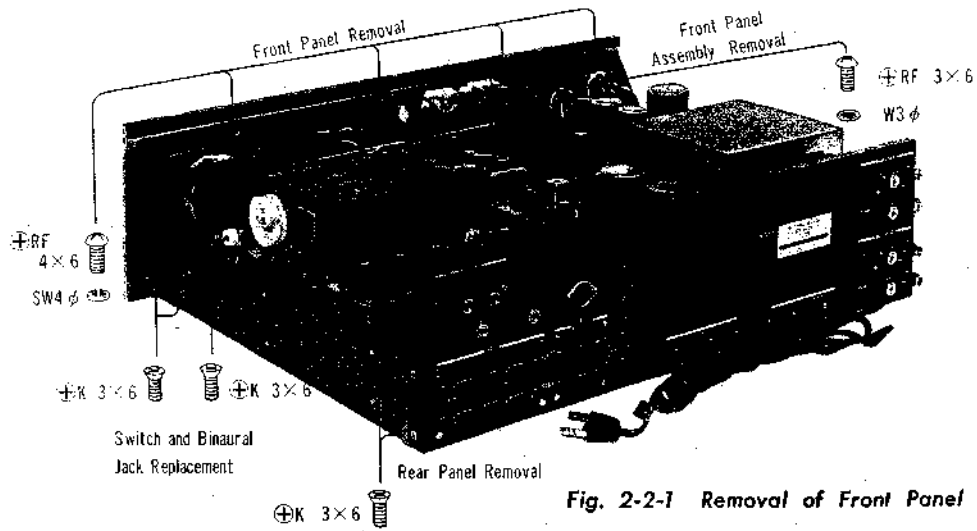

Fig. 2-2-1 Removal of Front Panel
- (c) Loosen off four Phillips-Head screws (+RF 4 ϕ ×6) behind the top edge of the Front Panel Assembly (the vertical bracket that mounts the dial and tuning meters). See Fig. 2-2-1 on next page.
- (b) Loosen off two flat head screws (+K3 ϕ ×6) at each side of the chassis and one screw (+RF3 ϕ ×6) that secures the sub-panel to the volume control and mode switch bracket. See Fig. 2-2-1 on next page.
- (c) To take the binaural jacks out, remove the switch and control assembly by loosening the two screws (+K3φ×6) at each side of the chassis as shown in Fig. 2-2-1. Now tilt the assembly forward and down. The jacks can now be removed by loosening the screws that secure them to the chassis.
- Loosen off two machine screws (+K3 ϕ ×6) securing the rear panel at each side of the chassis as shown in Fig. 2-2-1.
- Loosen off two machine screws (+K3 ϕ ×6) at each side of the chassis as shown in Fig. 2-2-1.